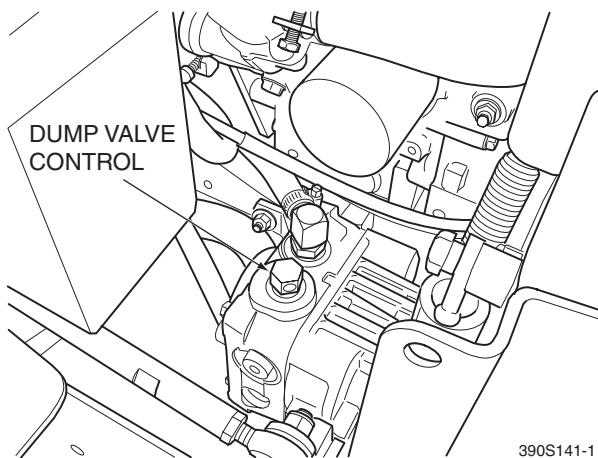

Figure 4-2. Dump Valve Control
12. **Dump Valve Control Levers (Figure 4-2).** Located on the hydraulic pumps, used to "free-wheel" the mower. Rotating the levers clockwise until they stop allows the unit to move under hydraulic power. The levers must be in this position and torqued to 10 lb-ft during operation of the mower. Rotating the levers counter-clockwise allows the mower to be moved by hand (free-wheeling).